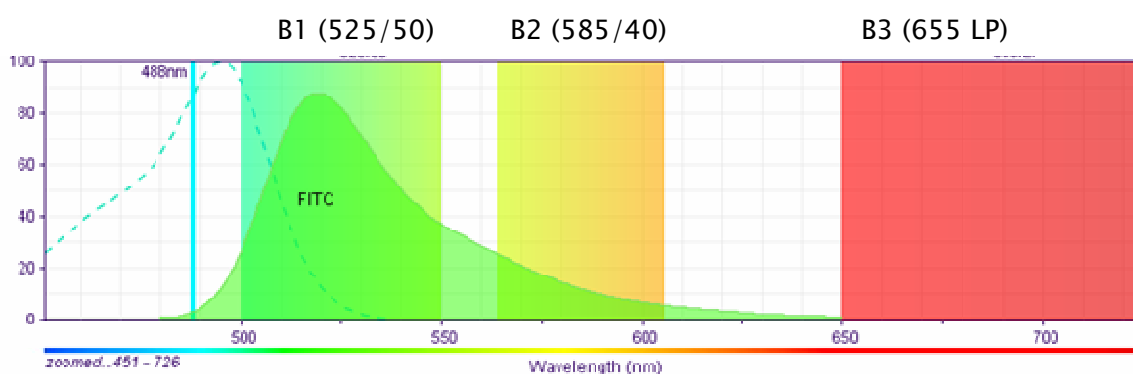

Figure 4.7 Spill over into the PE channel.
When a level of spill over is detected with single-stained samples, values between 0 and 1 are inserted into the spill over detection channel to set the compensation adjustments. As values are added into the various spill over channels, the same value should be subtracted from the primary detection channel, thus the entire value within the column should equal 1.0 or 100% of detected signal. In Figure 4.7, spill over into the B2 (PE channel) is being determined on a FITC single-stained cell. In this example, it was determined that 15 (%) of the detectable FITC signal was being seen in the B2 (PE) channel. Therefore a value of 0.15 is added to the fourth box down in the third column of the compensation matrix. The 1.0 is then readjusted to 0.85 (85% of detectable signal). If additional spill over of the FITC signal is found in B3 (PE-Cy5) channel, values should be added into the fifth box down in column 3.